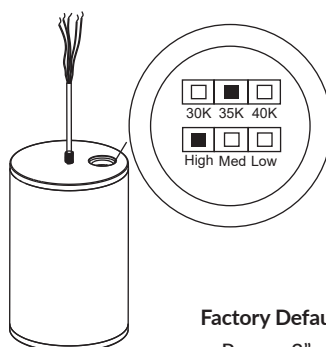

fig. 2
2. Select desired settings (CCT and power). (Figure 2)